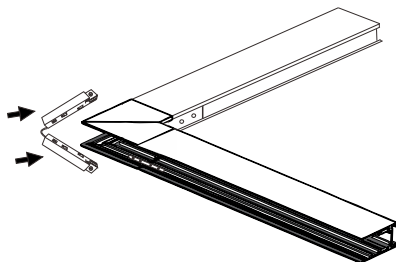

Figure5.3
3. After the two tracks are spliced together, insert the outer L-type guide connector into the splicing place of the two tracks to make the internal circuit of the two tracks Connecting conduction; (Figure 5.3)